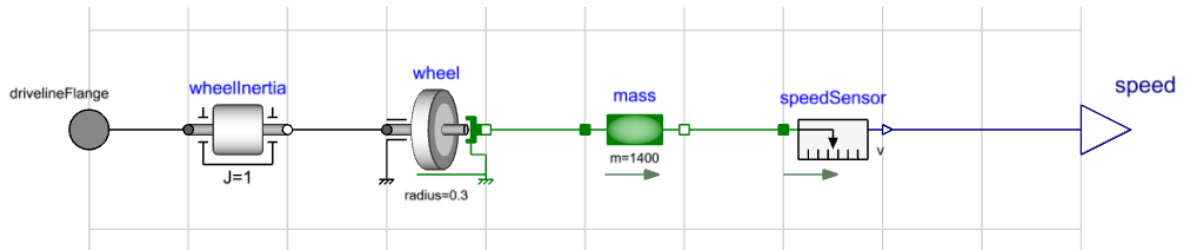

Figure 8 IdealChassis model
- c. **IdealChassis** using components from *Rotational* and *Translational* libraries as shown in Figure 8.